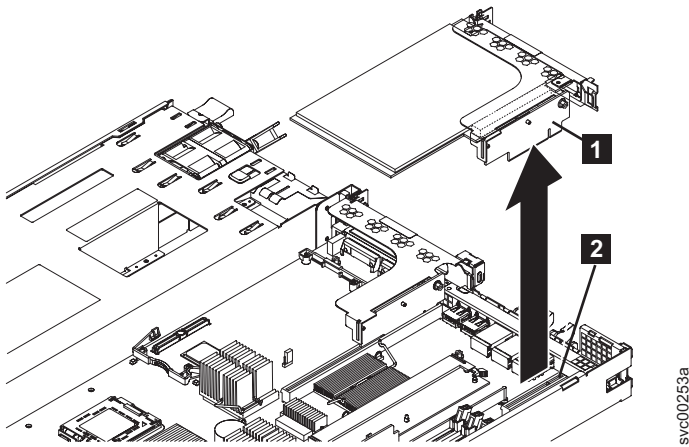

Figure 171. Removing the Fibre Channel riser-card assembly for the SAN Volume Controller 2145-CG8 or 2145-CF8
10. After removing the back-rail retaining screws for the adapter assembly, grasp the riser-card assembly at either end and pull up out of the slot 1 riser-card connector, as shown in Figure 171. Once the riser card clears the connector, gently twist the card assembly to separate the assembly from the node.